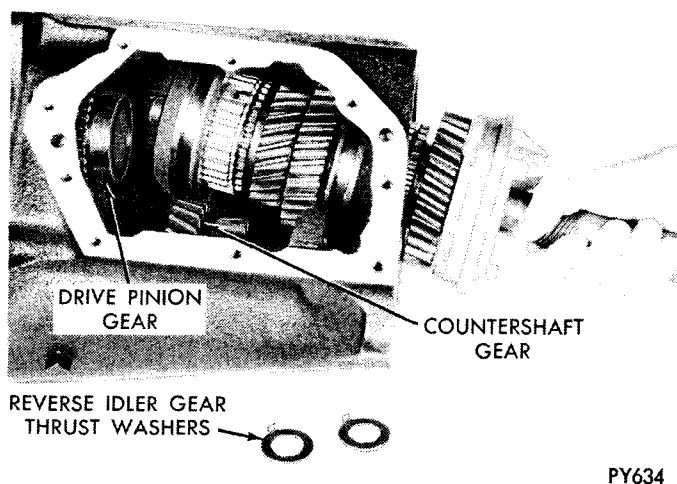

Fig. 9—Mainshaft Assembly—Removal or Installation
- (2) Remove idler gear with arbor in place to retain rollers.
- (3) Remove both thrust washers (Fig. 9).
- (4) Grasp mainshaft assembly and remove through rear of case (Fig. 9).